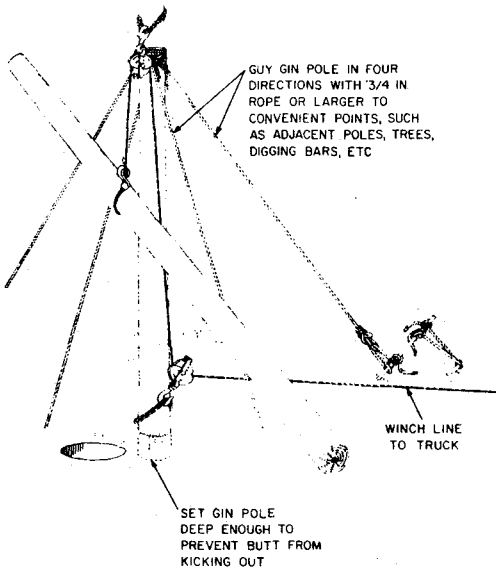
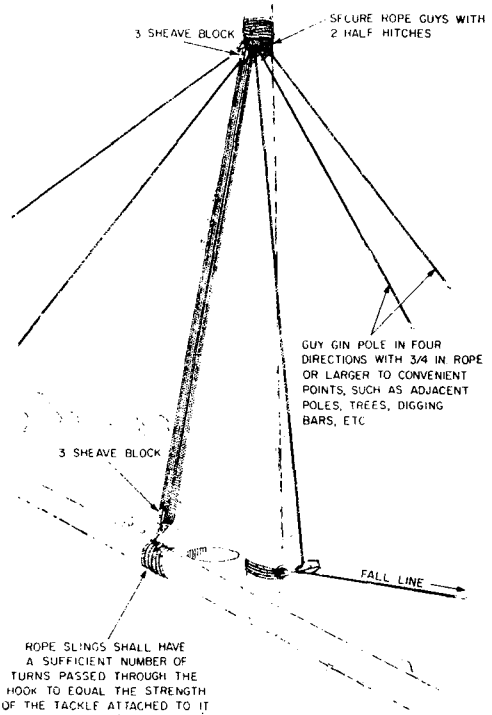

Fig. 10—Gin Pole with Winch Line to Truck
Fig. 11—Gin Pole with Rope Tackle
(1) The gin pole should be of adequate class and in good condition. Its length should be sufficient to permit attaching the snatch block or upper pulley block at a distance above the ground about 2 feet greater than the distance between the butt of the pole to be set and the point at which the winch line or sling will be attached.
(2) Erect the gin pole as close as practical to the hole which has been dug for the line pole. Where conditions permit, the butt of the gin pole should be set in a shallow hole to prevent its slipping. See Fig. 10. The butt may be set on the ground (or in the case of soft soil, on a plank) provided the butt is properly guyed in the opposite direction from the pull. This can be done by rope lashings to bars driven into the ground or to any other suitably substantial object.
(3) Guy the top of the gin pole with 3/4-inch rope or larger.
(4) Attach a wire rope snatch block or 3-sheave block at the proper height on the gin pole to permit the line pole to be raised clear of the ground.
(5) Run the winch line through the snatch block and attach it to the line pole to be raised at a point just above the balance point of the pole. If rope tackle is to be used, attach the lower sheave block just above the balance point. It is usually preferable to run the winch line or pulling line through a snatch block placed close to the ground on the gin pole. See Fig. 10 and Fig. 11.